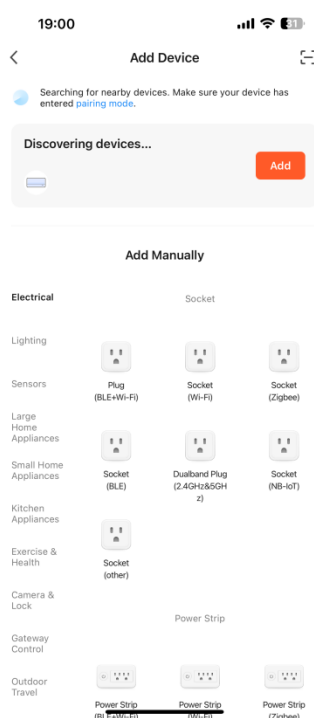

Fig.5
- 3.4. To accelerate pairing with Bluetooth devices, the app supports the automatic discovery of nearby Bluetooth devices. Once the Home page is opened, the app automatically searches for Bluetooth devices pending pairing and shows discovered Bluetooth devices in a dialog box. (Fig.5)